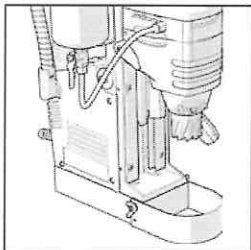

Fig. 2
- Attach the Safety Guard and secure in place using the supplied fixing screws. (**Fig. 2**)